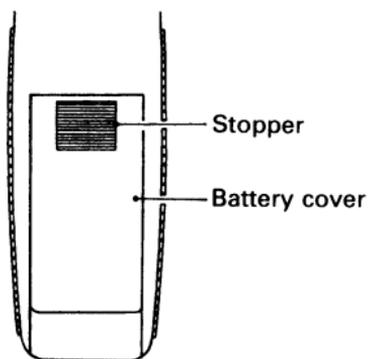

Fig. 4
- 1-1 Detach the battery cover on the rear side of the unit by strongly depressing its stopper and pulling it towards you as shown in Fig. 4.